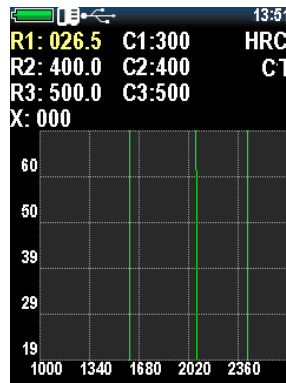

Figure 2.30 - Setting real hardness values
- To start the calibration, enter the real hardness values of the samples by pressing the key , Using navigation keys  and  to set up the real hardness values, push  key to enter the next value (Fig. 2.30).